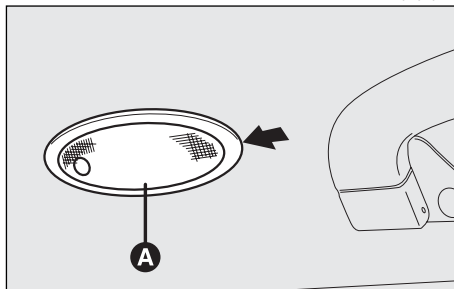

fig. 55
- Remove the rooflight (**A-fig. 55**) levering in the point shown by the arrow.